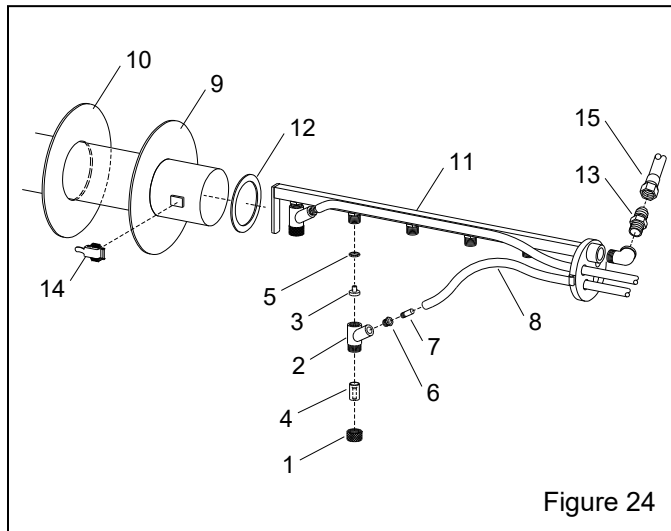

Figure 24
9.4 Gun and Rack Assembly – Figure 24